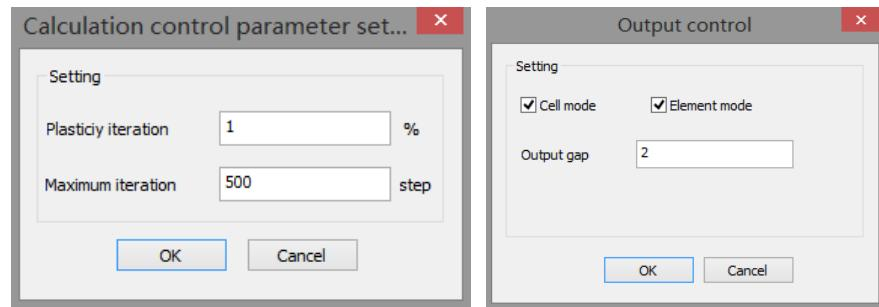

Figure 43 Calculation and output control
- (6) Set calculation and output control (Figure 43);
- (7) Start calculation.